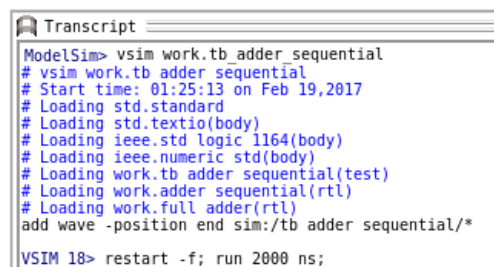
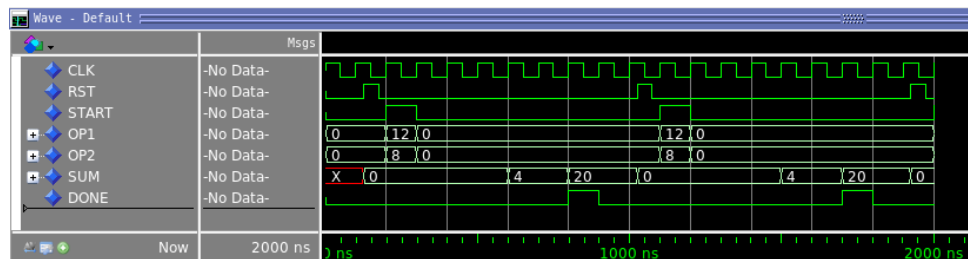

Figure 17: Transcript
Figure 18: Waveform (repetitive input feeding)
6. Finally, in the simulation transcript, type `restart -f; run 2000 ns;` (Figure 17). A waveform window should appear with the result of the simulation (Figure 18).